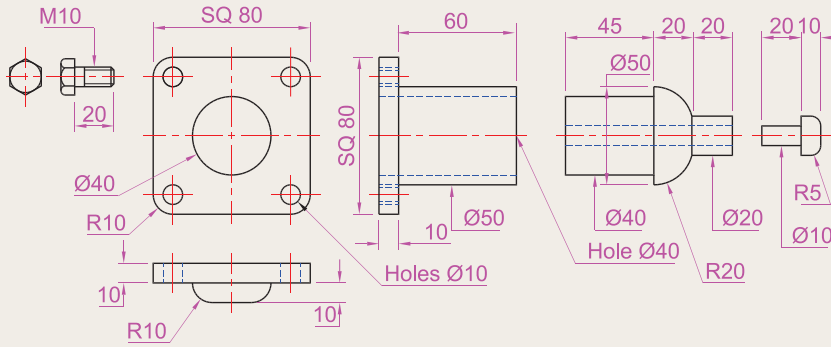
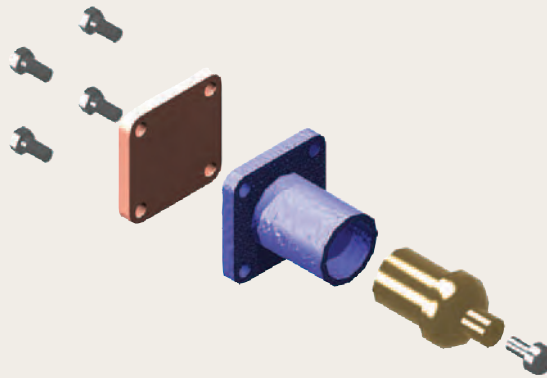

Fig. 19.19 Exercise 4 – details of shapes and sizes
Fig. 19.20 Exercise 4 – exploded rendered model
4. Construct an assembled 3D model drawing working to the details given in Fig. 19.19. When the 3D model drawing has been constructed disassemble the parts as shown in the given exploded isometric drawing (Fig. 19.20).